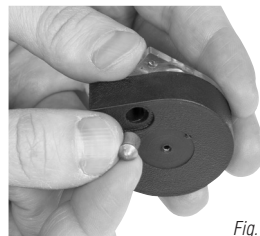

Fig. 7
3. Spin the black plastic part counter-clockwise to release the cover from the catch point. Then insert the pellet in backwards (*skirt first*) into the first location. (Fig.7)